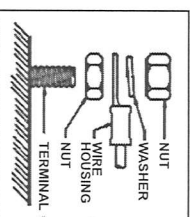

Figure 3
- Tighten the connections as shown in Figure 3.